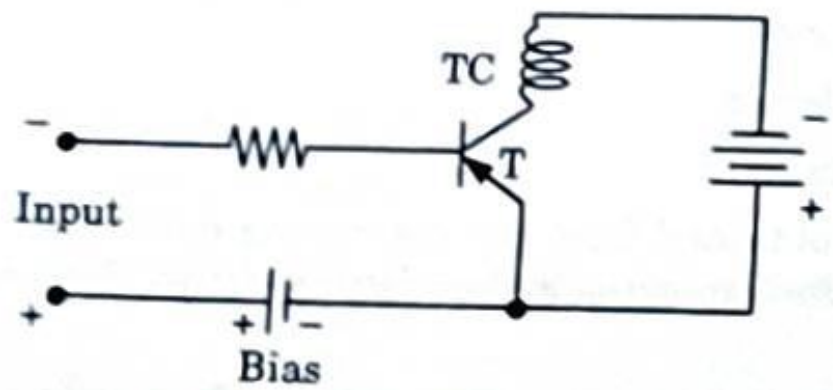

Fig. 5.5.1. Level detector.
- It is shown in Fig. 5.5.1, which shows the principle of a level detector. Here there is normally a positive bias on the base of the transistor to keep it non-conducting.